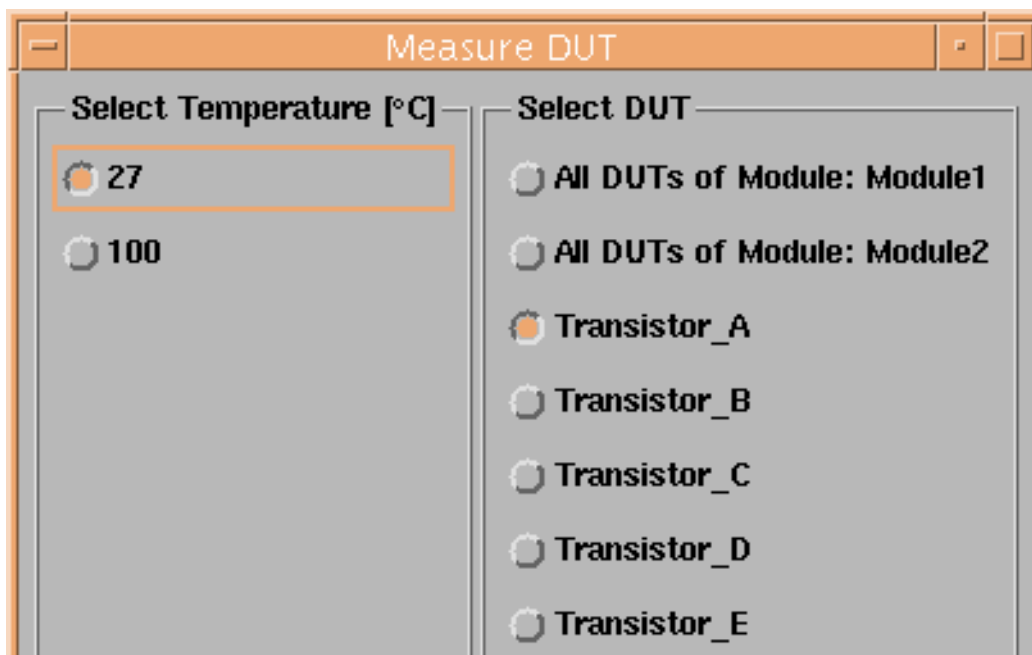

Figure 1-22. Select devices and measurement temperatures form
- To start measurement of the devices: Click **Measure** and select the DUT(s) to be measured on the form (Figure 1-22) that opens. You can select measurement temperature (if there is a temperature other than TNOM defined in the temperature setup form) as well as a specific DUT or all DUTs in a module. Start measurement with the Measure button on that form. If measuring at elevated temperatures, be sure to wait until your devices are heated up or cooled down to the desired temperature. Please, be aware of the fact, that you must set your chuck temperature manually, because ICCAP does'nt support heated chuck drivers.